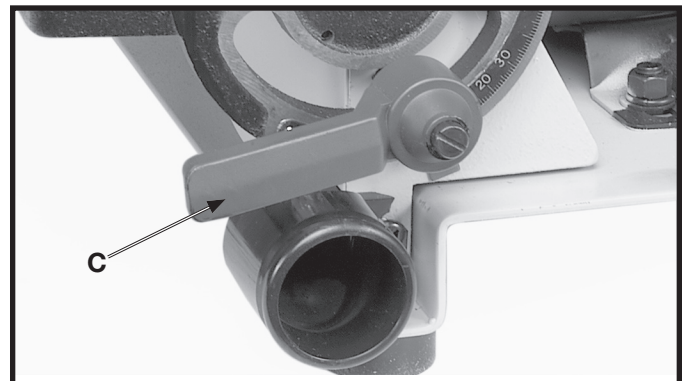

Fig. 16
6. Fig. 16, illustrates the locking handle (C) assembled. **NOTE:** The locking handle (C) is spring-loaded and can be repositioned by pulling out the handle and repositioning it on the serrated stud located underneath the handle.